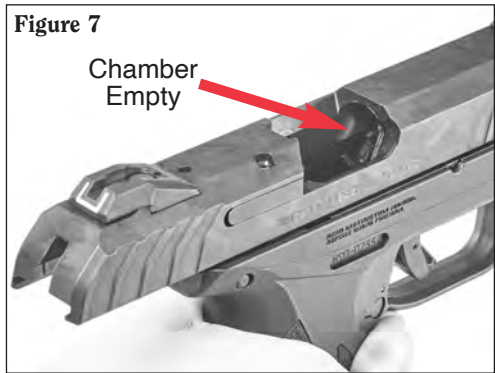

Figure 5
1. **Keep pistol pointed in a safe direction.** Press the magazine latch and withdraw the magazine from the frame (see Figure 5).